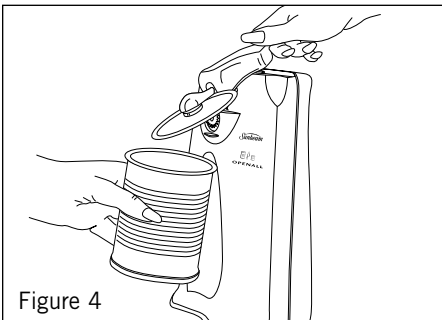

Figure 4
7. To remove the can, support the can with one hand and lift the Lever with the other. The lid will remain attached to the Magnetic Lid Holder. (See figure 4.)